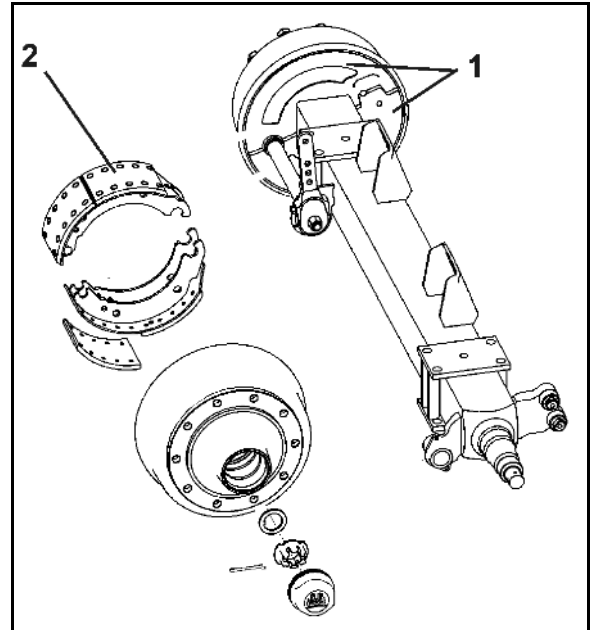

Fig. 137
1. Unscrew the two cover plates (Fig. 137/1) inside the brake drum.
**Penetrating dirt may clog the brake linings (Fig. 137/2) which considerably reduces the braking power.**